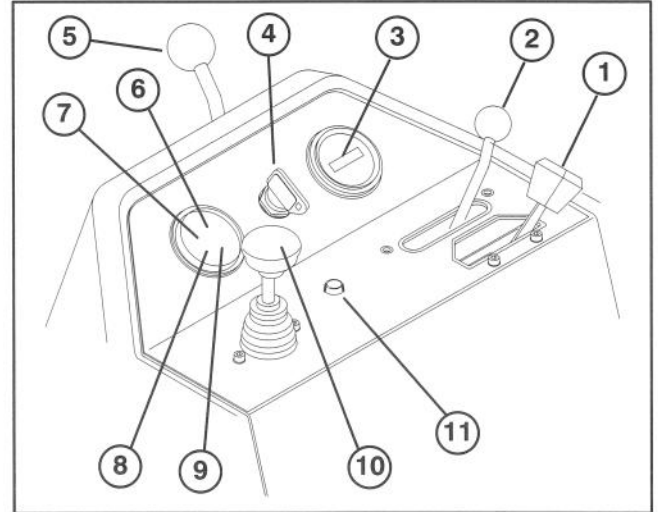

Figure 18
Throttle Control (Fig. 18) – The Throttle Control gives the operator the ability to control the speed of the engine. Moving the Throttle Control toward the “FAST” position increases engine RPM; moving Throttle Control toward “SLOW” will decrease engine RPM.
Functional Control Lever (Fig.18) – Provides two (2) traction selections, plus a “NEUTRAL” position. It is permissible to shift from mow to transport or transport to mow (not to neutral) while the Greensmaster 3200–D is in motion. No damage will result.
Hour Meter (Fig.18) – Indicates the total hours of machine operation. The hour meter starts to function whenever the key switch is rotated to “ON”.
Ignition Switch (Fig. 18) – Insert key into switch, turn clockwise as far as possible to “START” position to start engine. Release key as soon as engine starts; key will move to “ON” position. Turn key counter–clockwise to “OFF” position to stop engine.
Steering Arm Locking Lever (Fig.18) – Rotate lever rearward to loosen adjustment, raise or lower steering arm for operator comfort, then, rotate lever forward to tighten adjustment.
Water Temperature Light (Fig. 18) — Light glows and engine automatically shuts–down when engine coolant temperature gets too high.
High Temperature Override Button (Fig. 18) —If engine kills due to an over heat condition, press over ride button in and hold until machine can be moved to a safe location and allowed to cool down.
Glow Plug Indicator Light (Fig. 18) – When lit, indicates glow plugs are on.
Battery Warning Light (Fig. 18) – Light glows if battery charge is low.
Oil Pressure Light (Fig. 18) — Light glows if engine oil pressure drops below a safe level.
Raise / Lower – Mow Control (Fig 18) – Moving control forward, during operation, lowers the cutting units and starts the reels. Pull back on control to stop reels and raise cutting units. During operation reels can be stopped by pulling back on control momentarily and releasing. Restart reels by moving control forward.